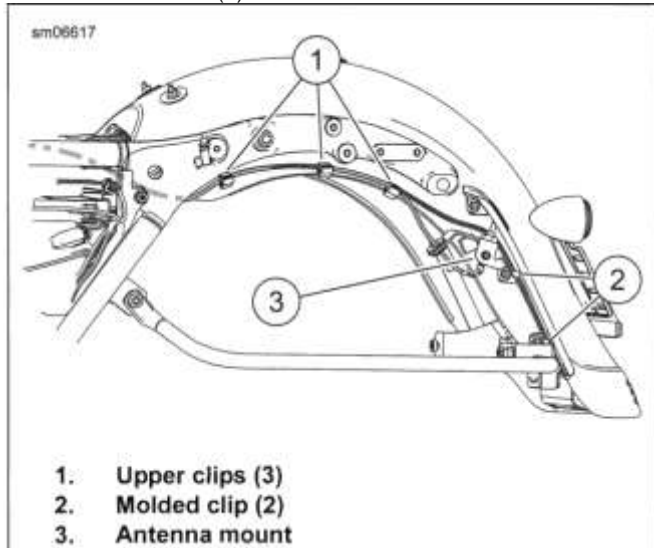

Figure 8-90. Rear Fender Lamps Harness and Antenna Cable: FLHX, FLHXS, FLTRX, FLTRXS
- 1. See Figure 8-90. Release antenna cable from three upper clips (1).
- 2. Figure 8-90. Pass connector through grommet and connect to bottom of antenna.
3. Capture cable in three upper clips (1).
4. Mate to connector (1).